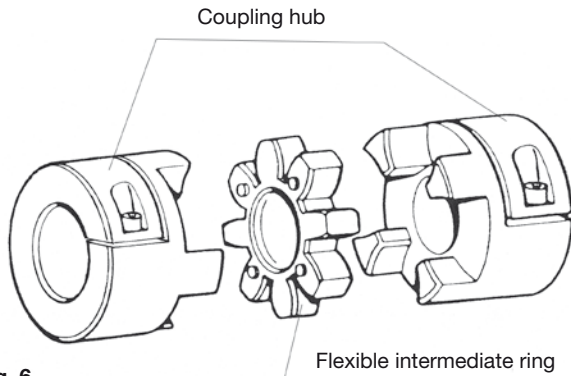

Fig. 6
ROBA®-ES stands for flexible (E), backlash-free (S) shaft coupling. The device consists of two coupling hubs and a flexible, star-shaped intermediate ring (Fig. 6).